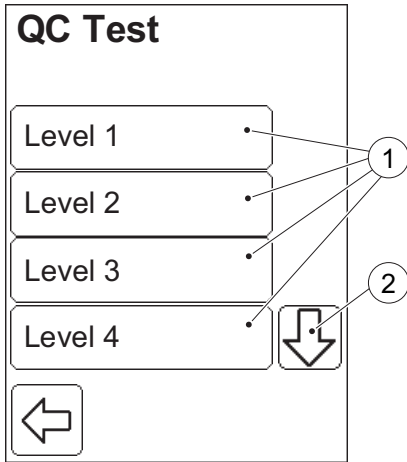

FIGURE 6-6
FIGURE 6-6 will be displayed.
- a) To enter the QC Test procedure, press the QC Test button (3). *FIGURE 6-6* will be displayed.
f) Press the Confirm button (8). *FIGURE 6-6* or *FIGURE 6-11* will be displayed.
- To perform a Linearity Test, press the linearity button in the QC test options display, see *FIGURE 6-6*.